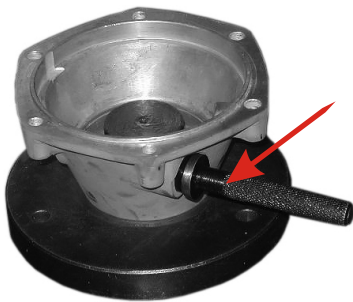

Fig.73
- Using a mandrel press the drive shift shaft collar (Fig. 73)